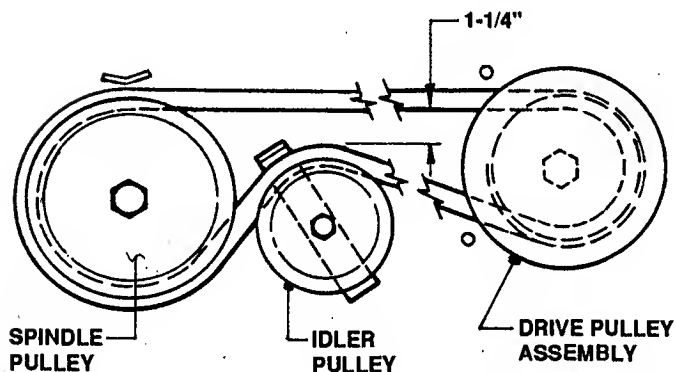

FIGURE 4.1
3. Measure the distance between belt at idler pulley. The distance should measure 1-1/4" but no less than 1". See Figure 4.1.